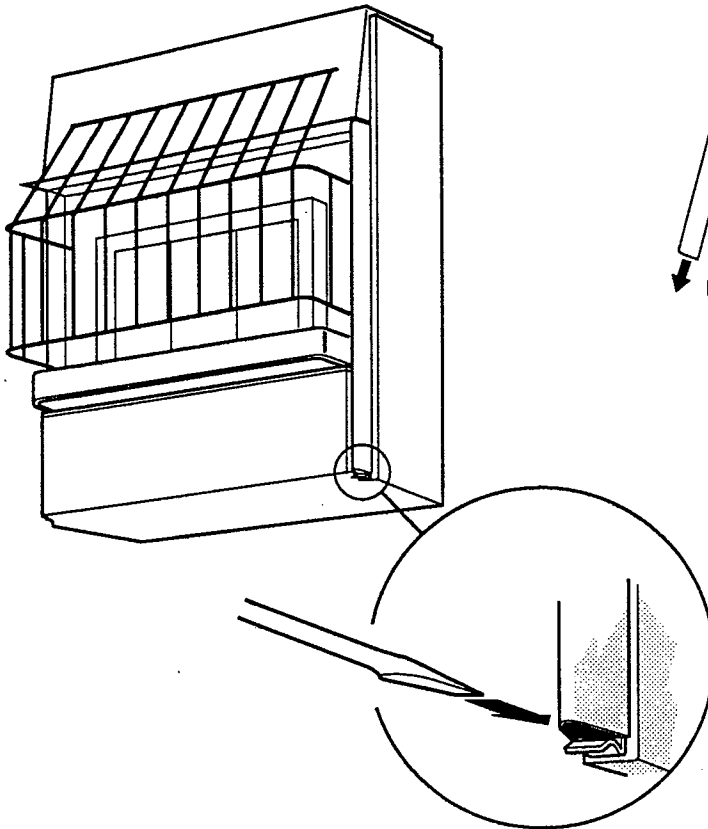

Figure 3 - Side Trim Strips Removal
2. To remove the lower front panel, first remove the side trim strips by depressing the spring clips with a screwdriver, as shown in Figure 3. Press in on the sides of the front panel and remove, as shown in Figure 4.